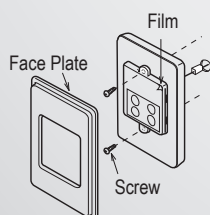

Fig.4
5. Fix the controller to the wall using appropriate screws as shown (Fig. 4).
6. Remove protective plastic from the controller face as shown (Fig. 4) and replace the face plate.